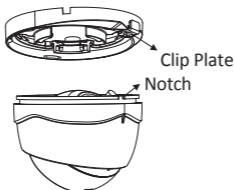

Figure 2-6 Disassemble the Camera
1. Disassemble the turret camera by rotating the camera to align the notch to the clip plate, as shown in Figure 2-6.